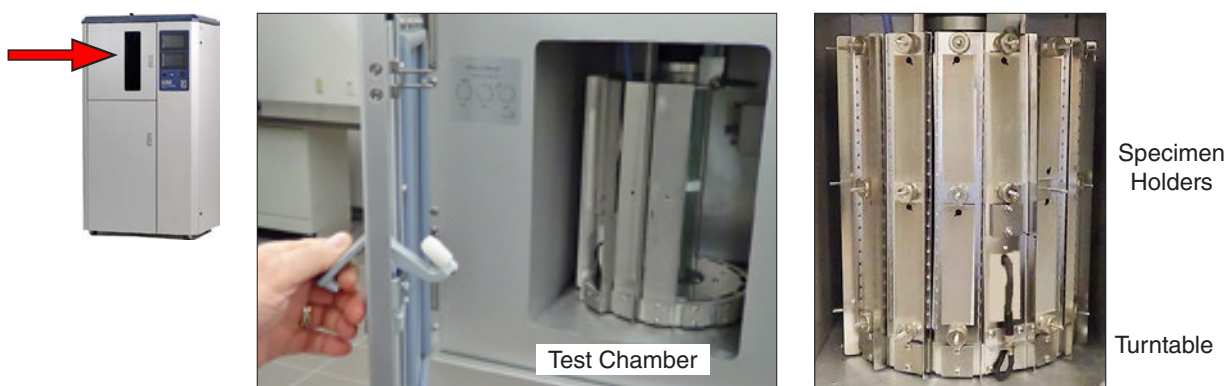

Figure 7.1: Xe-2 Specimen holders mounted on turntable inside the test chamber.
- Specimens must be mounted on holders (Figure 7.1).